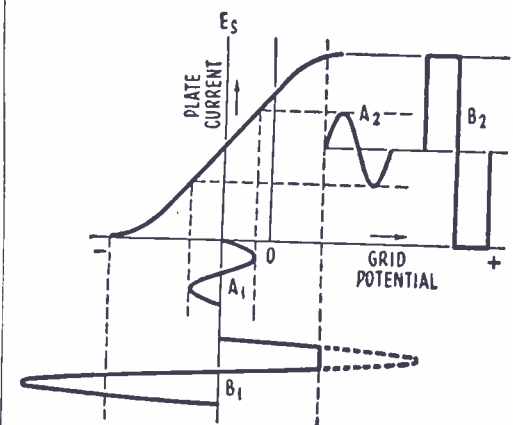

Fig. 14—Waveform from overdriven amplifier.
All that is required is an input signal of such great amplitude that (1) it drives the amplifier tube far into the cut-off region on negative alternations, and (2) it drives the tube far beyond the saturation region on positive alternations (Fig. 14).
Referring to Fig. 14, assume that the normal input  $A_1$  of 50 volts results in a linear output  $A_2$ . The triode, however, is purposely operated with an excessive input  $B_1$  of 400 volts, or higher. Then, as the grid swings positive a condition of saturation will be reached quickly—and the output  $B_2$  will have risen to its greatest possible value. As the grid attempts to go more positive due to the driving influence of the input signal,